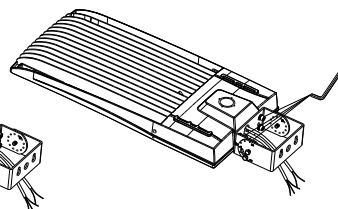

Figure 8
Step 2: Fix the bracket. (Figure 8)